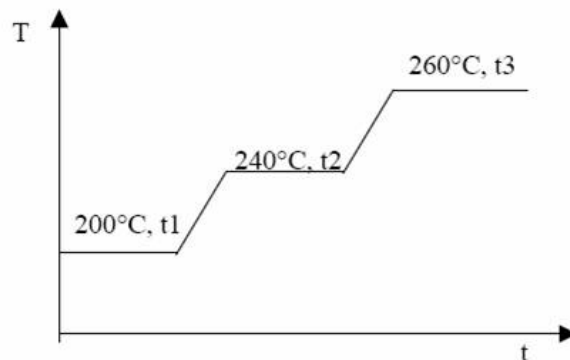

Figure 3.
3. heat the part at the desired process temperature for the normal coating procedure (see Figure 3); in any case, it is suggested to remain on the lower end of the temperature range (close to 260°C)